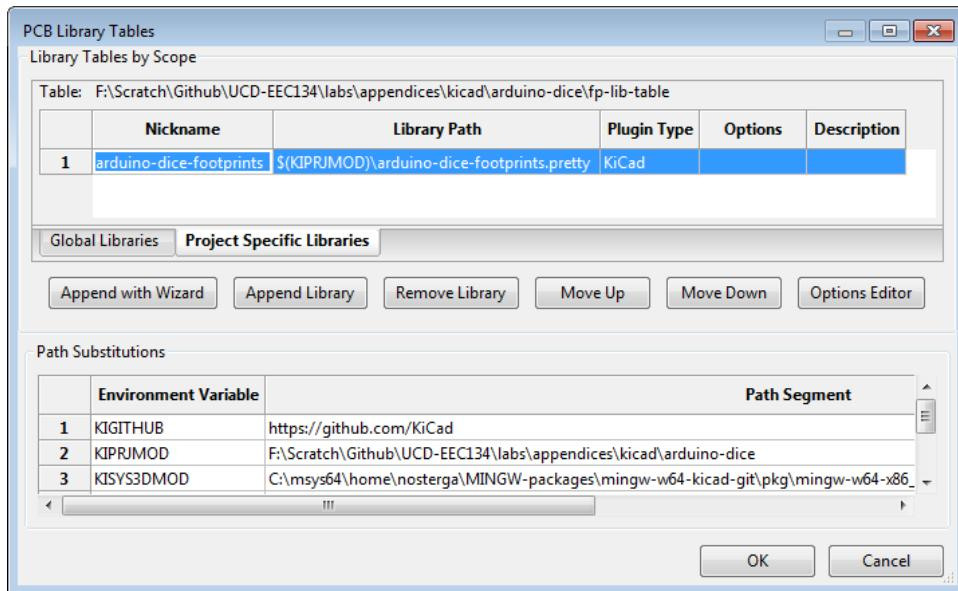

Figure 17: Add a project footprint library.
- e) Select “To the current project only” and click “Finish” to finish adding the footprint library to this project. If you have created a generic library that you want to use across multiple projects, you could select the “To global library configuration” option. Fig. 17 shows how the “PCB Library Tables” looks like now. Notice how KiCad replaces the absolute path with the “KIPRJMOD” environment variable.